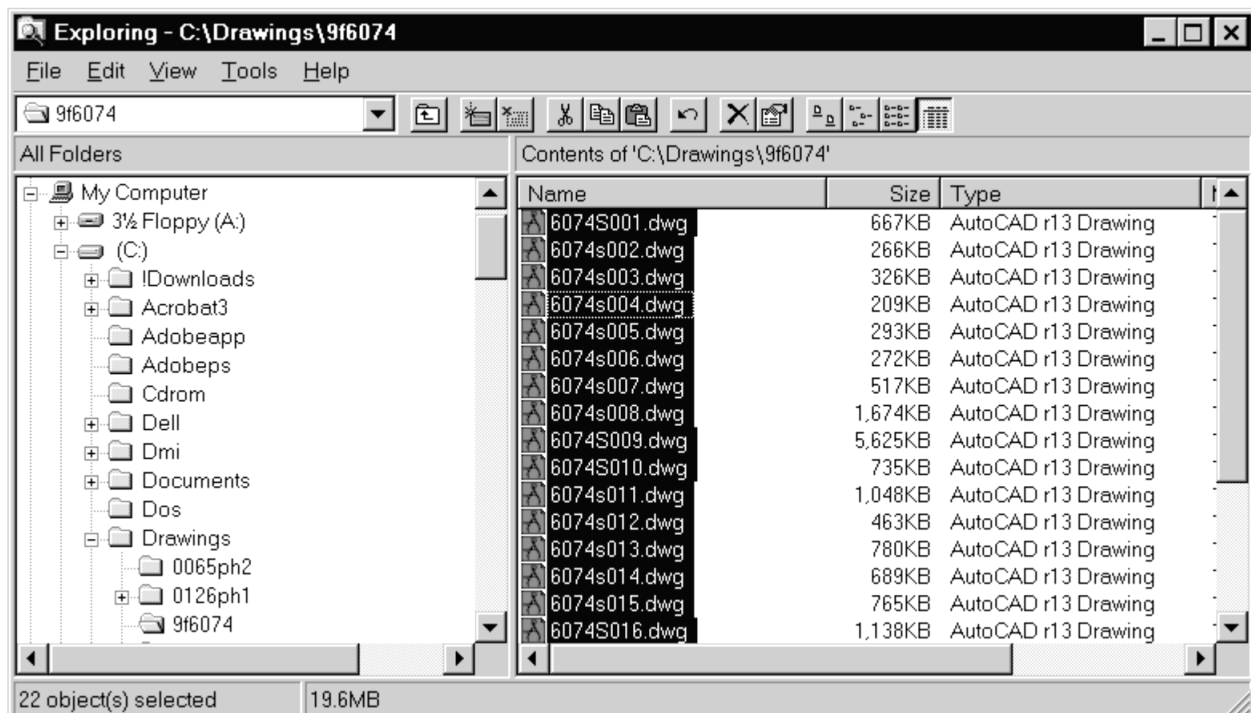

Figure 2.13
3. Highlight your desired drawings using Shift, Ctrl, or Edit/Select All. See Figure 2.13.